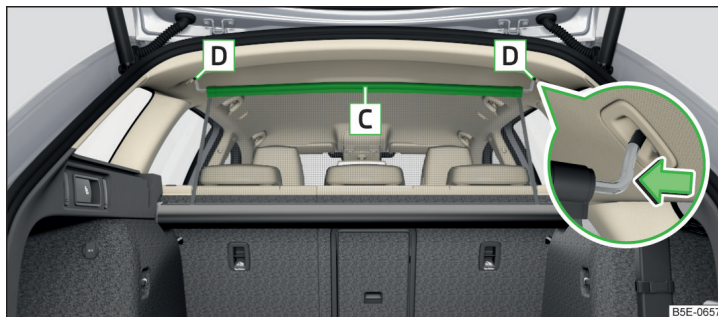

Fig. 130 Correctly secure net partition behind the front seats in the pulled-out state
- Pull out the net partition at the crossbar [C] and hook into one of the receptacles [D] » Fig. 130.
- Press on the crossbar and remove it from the receptacles [D] » Fig. 130, first on one side, then on the other side.